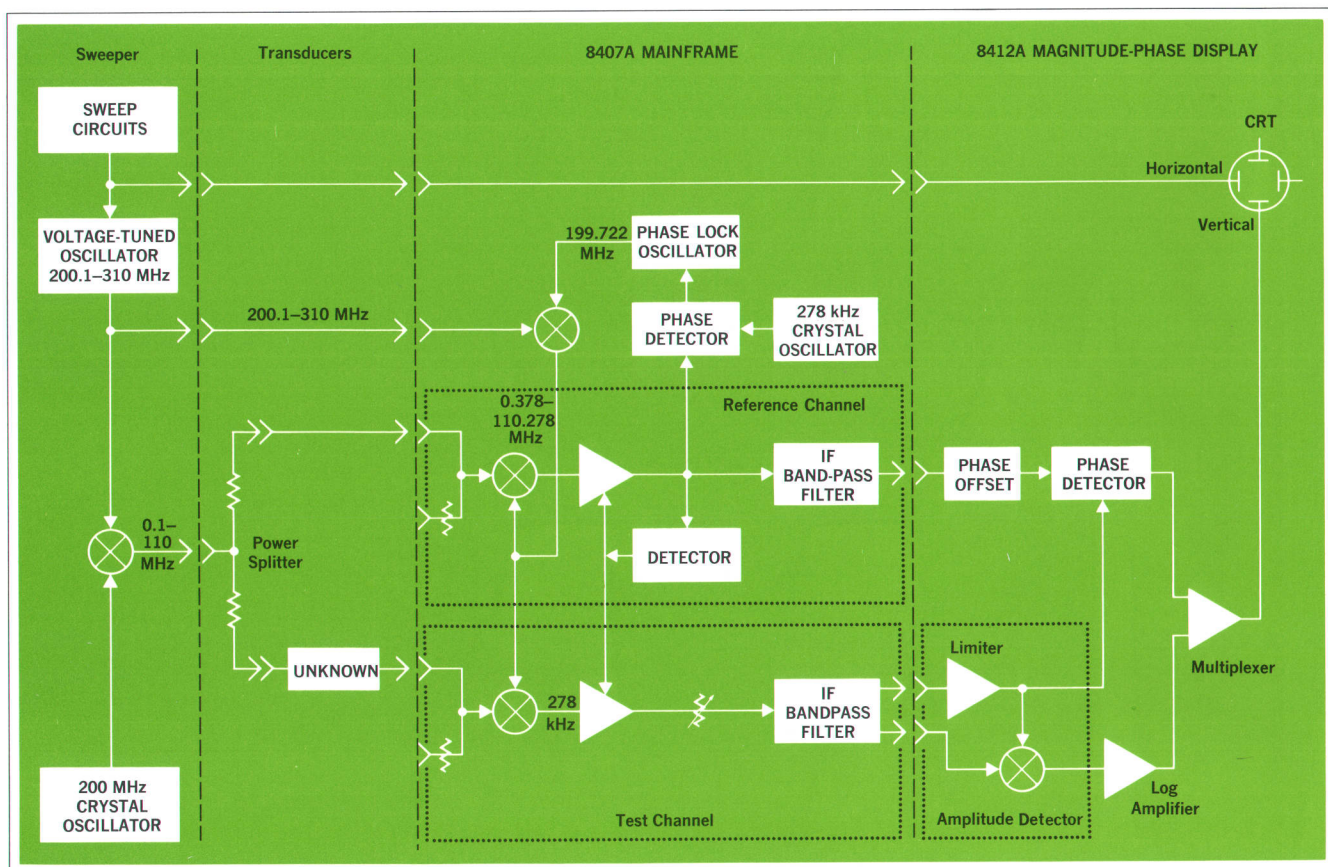

Fig. 4. HP Model 8407A Network Analyzer System block diagram.
Fig. 4 shows a block diagram of the system. The frequency conversion principle used in the Network Analyzer is fundamental mixing. This principle is also used in both HP sweepers which are usable with the system (Models 8601A and 8690B/8698B). In the sweeper a voltage-tuned oscillator (VTO) is tuned from approximately 200 to 310 MHz and mixed with a 200 MHz crystal oscillator (XO). The result is a swept output to 110 MHz. This output is split, one part connected to the analyzer's reference input, the other to the device under test. The signals in both channels are converted to 278 kHz (IF) by the input converters, which preserve both amplitude and phase. Tracking AGC amplifiers are used to normalize the level of the test channel signal to that in the reference channel.
Even when sweeping more than 100 MHz the system has the effect of a 10-kHz filter always tuned to the RF; this tracking filter reduces the input noise by 40 dB compared to that obtainable with a broadband detector. Fundamental mixing is employed, rather than sampling. Some tracking detectors use sampling and phase-locked loops to obtain their IF. The fundamental mixing method inherently can yield a lower noise figure, so input sensitivity can be improved. The detection scheme (Fig. 4) employed in the Model 8412A display actually will largely ignore noise until it is higher than the signal. As